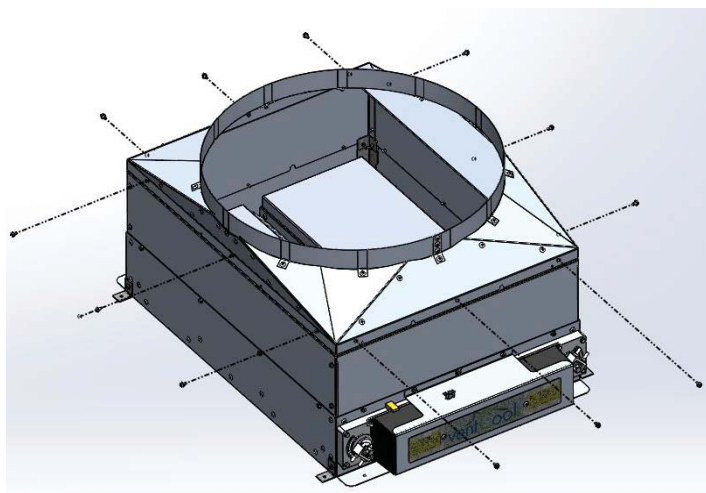

FIGURE 10 – Install Damper Inlet Collar
Place damper inlet collar over top of damper walls and secure in place with twelve (12) self-tapping screws provided as shown in Figure 10. Use the aluminum tape to seal up any seam and joint openings in the damper assembly prior to final installation. Remove any damper door shipping/secure in place packaging.